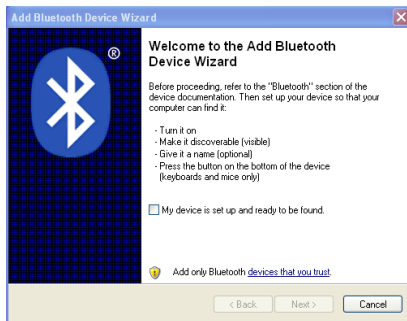

Figure 8
- 4) Click "Add" button, the dialogue box shown in Figure 8 will pop up.